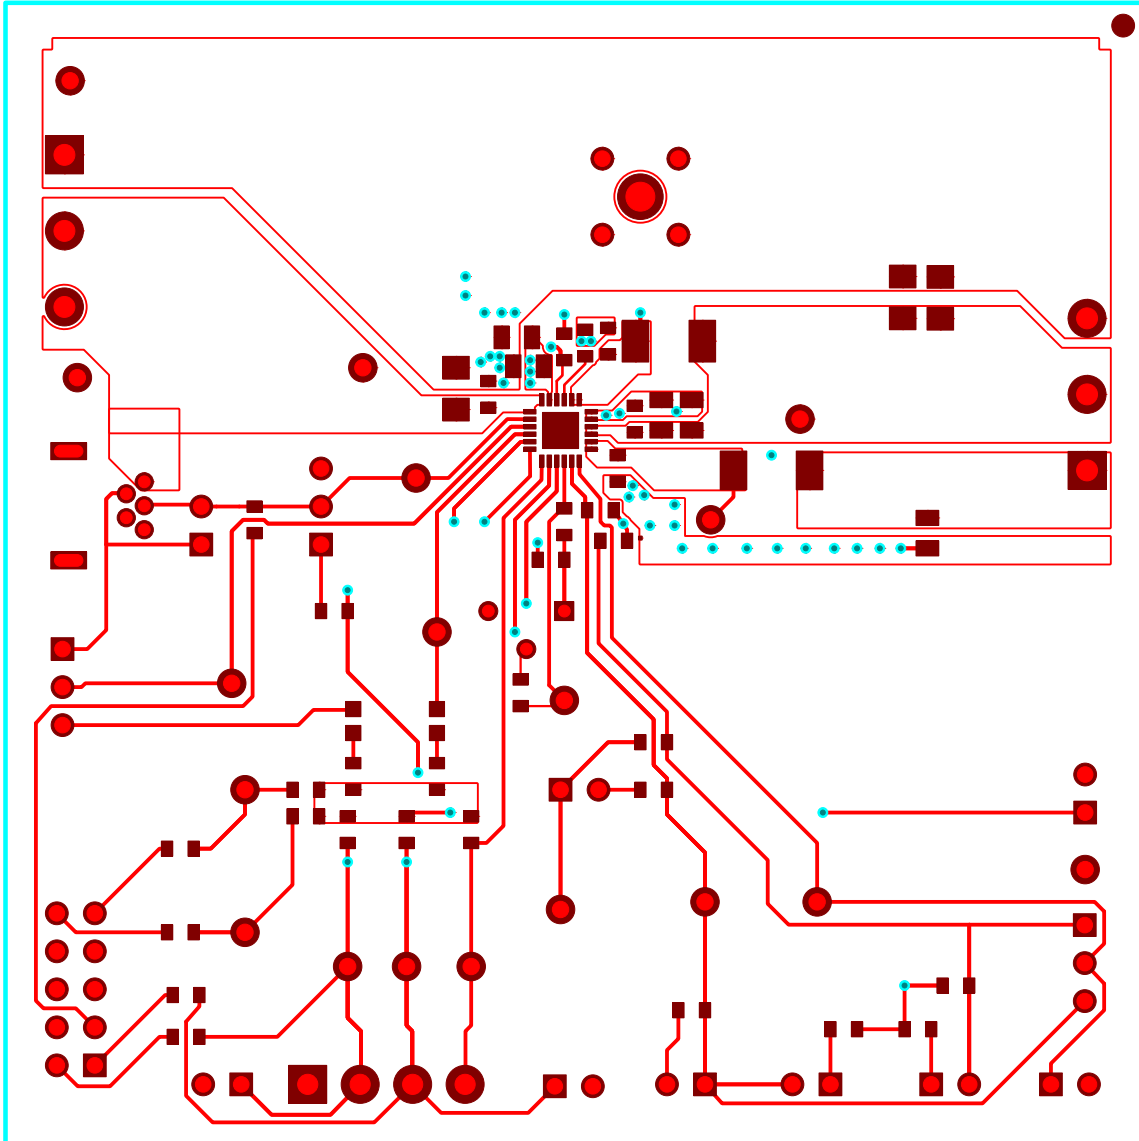

Figure 6. bq2429xEVM Top Layer
7. Verify scope measurement (See Figure 6)
Figure 6 through Figure 11 illustrate the board layouts for this EVM.